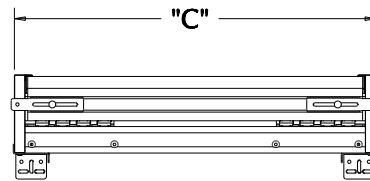

Fig. 7
4. Cut (2) shims 4" x 4" x (thickness from step 2).
5. Measure the distance from floor of cabinet to inside top of cabinet ("D"). Subtract 4-3/4" and cut (4) positioning legs to this height. (see fig. 7)